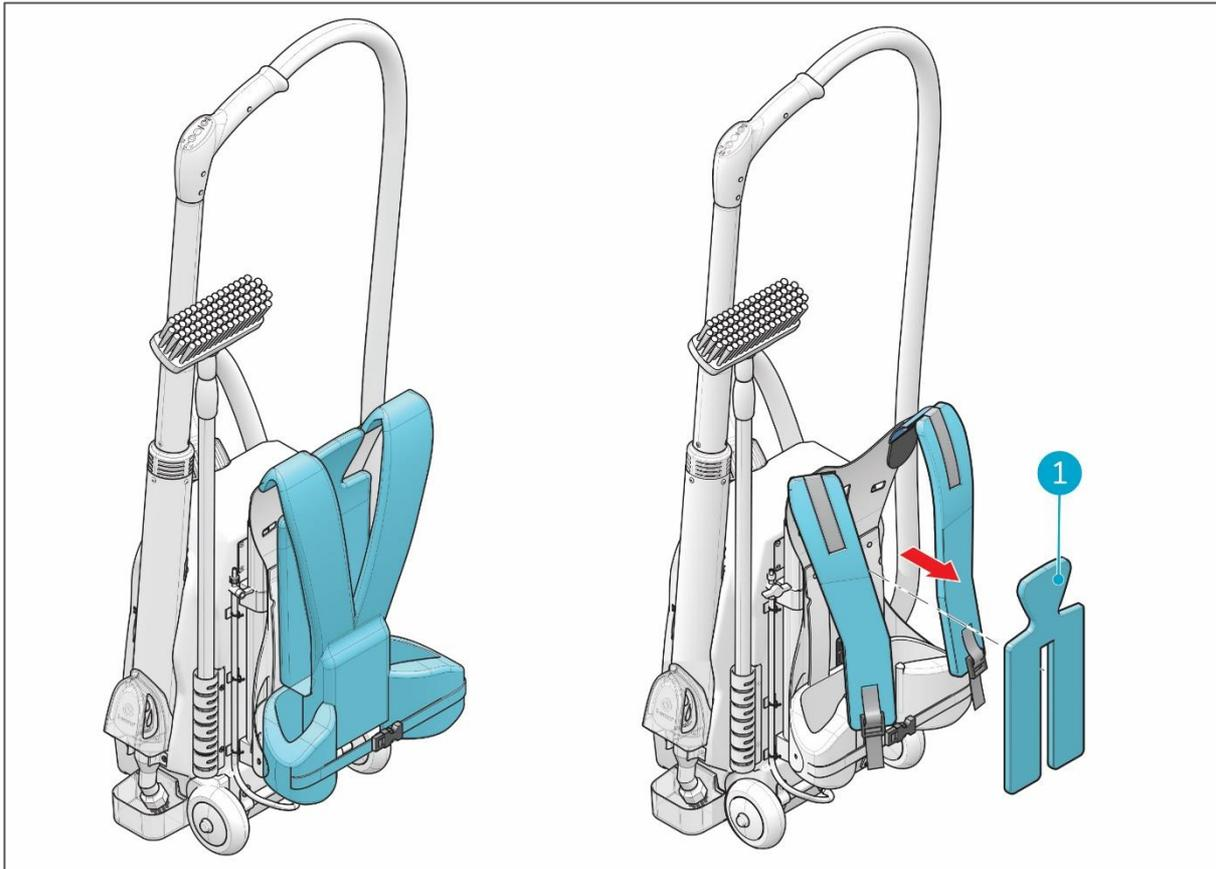

Figure 8
1. Attach the drip tray (Figure 8, pos 2) to the body.
2. Click the lance (Figure 8, pos 1) into the holder (Figure 8, pos 3), with the metal plate facing the main body.
4. Place the broom in the broom holder (Figure 8, pos 4).
5. Place the spare brushes in the storage tube (Figure 8, pos 6).
6. Attach the storage bag for the battery charger (Figure 8, pos 5) to the body if desired.